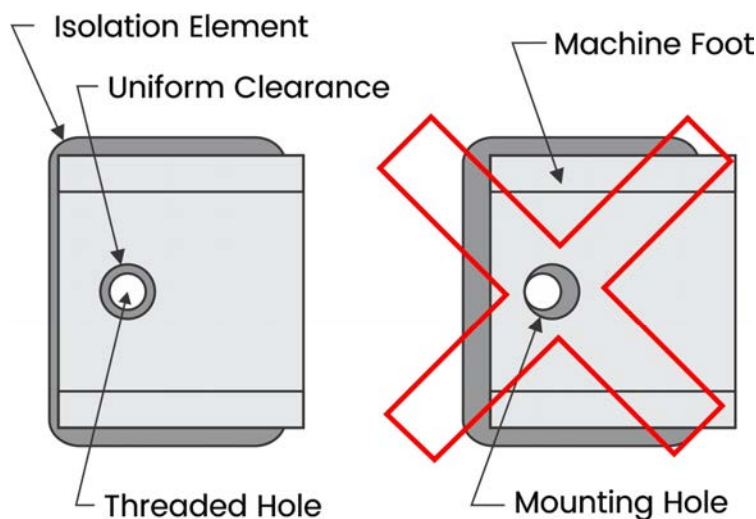

FIGURE 1
5. If the isolators are equipped with attachment bolts, position each isolator so there is uniform clearance between the threaded hole in the isolator and the inside surface of the mounting hole (see Figure 1). Any contact between the attachment bolt and the inside surface of the mounting hole as it is turned into the isolator housing can cause the attachment bolt to jam.